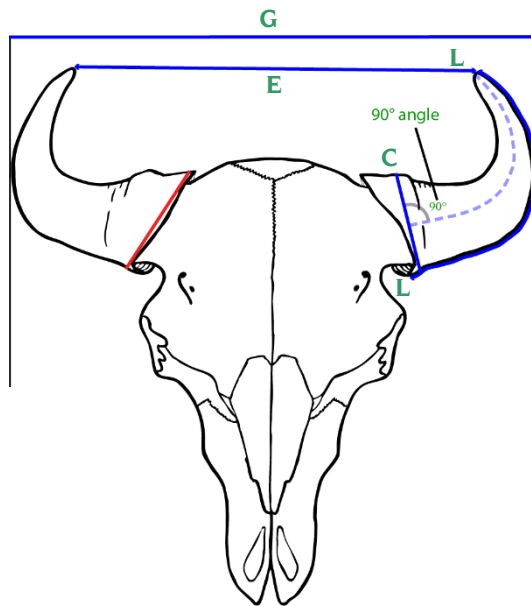

Figure 1
Measure the length of each horn from the base to the tip. With bison, wisent, yak, gaur, gayal, and banteng, start on the outside curve at the lowest part of the horn base on the center of the horn, which is often, but not always, near the eye socket. (Figure 1, L-L) For the length measurement of the other bovines in this category, see below. Measure toward the point by staying on the center of the outside curve; card off the point if broken or severely worn. (See general instructions). The tape may not bend over to reach the tip.
Measure the circumference of each horn at the base (Figure 1 & 2). This must be done at a 90-degree angle to the axis of the horns. The exception to the 90-degree rule is the takin; please see its specific instructions. The tape should touch horn material at all times.
Measure the greatest outside spread (Figure 1, G). Establish the outer limits of the horns using two right-angle forms. Measure the greatest spread in a straight line and at a right angle to the axis of the skull. The easiest way to measure the spread is to lay the horns and skull on a smooth, flat surface such as a clean concrete floor and then place two large carpenter's triangles (an L-shaped device made of hard plastic or metal that can stand up straight) on both ends of the horns, making sure that both triangles are at a 90-degree angle to the axis of the skull. It is now easy to get a measurement; mark with a pencil where the carpenter's square reaches the concrete floor (both sides), push the horns and triangles away, and measure the distance between the two marks. Do not measure from a wall above the horns and skull to a single carpenter's triangle because an air measurement may lead to a tape measure sagging, and this will increase the score.
4. Tip to Tip. Measure the tip-to-tip value in a straight line from the center of the left horn tip to the center of the right horn tip. This is a required measurement to check for abnormal horn configurations. Figures 1, 4 and 6.